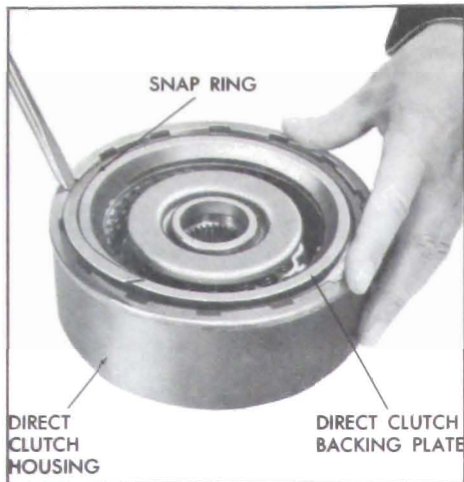

Figure 5-636
3. Turn unit over and remove backing plate to clutch housing snap ring. See Figure 5-636.